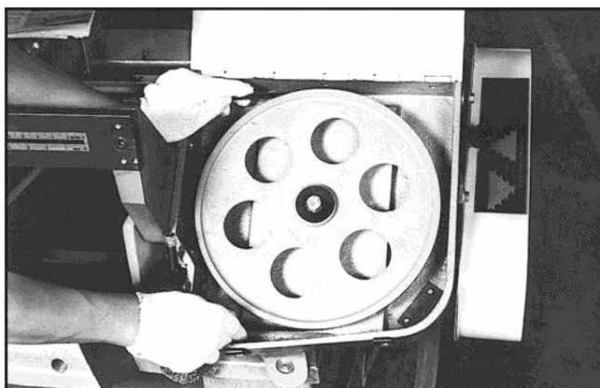

**Figure 8. Blade Backup Bearing**
9. Work the blade all the way up between the blade guide bearings with the back of the blade against the back-up bearing, as shown in Figure 8.